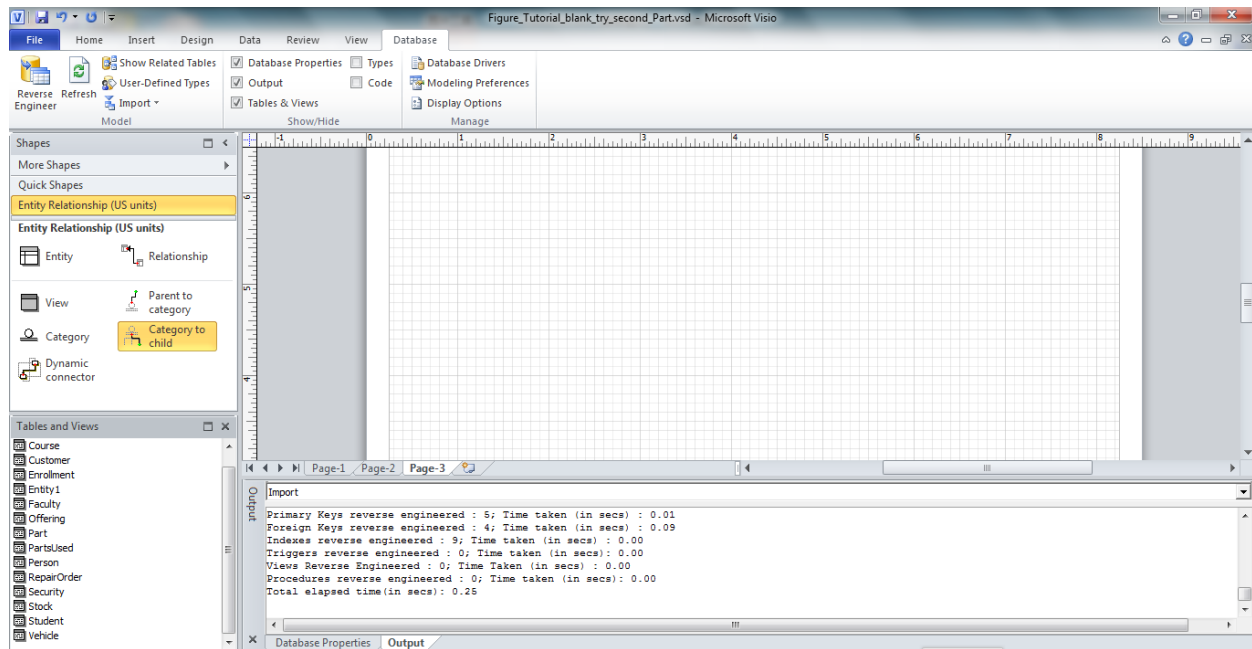

Figure 68: Output and Tables Windows in the Drawing Area
7. View the Output and the Tables Windows: After the Reverse Engineer Wizard finishes, the Output and the Tables windows appear in the drawing area (Figure 68). The Output window lists the actions taken by the Reverse Engineer Wizard. The Tables window shows the tables converted from the relational database to entities. Close the Output window when finished reading it.